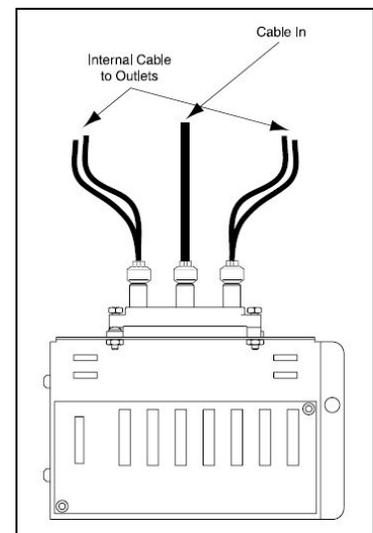

Figure 3
- A. Mounting in On-Q Enclosure (see **Figure 3**):
- B. Service Connection – Video Portion (see **Figure 3**):